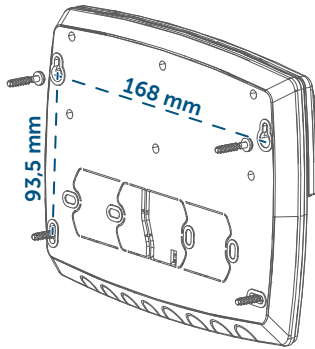

Figure 2
- Use the screws and plugs supplied to fasten the Multi IO Box (see fig. 2).